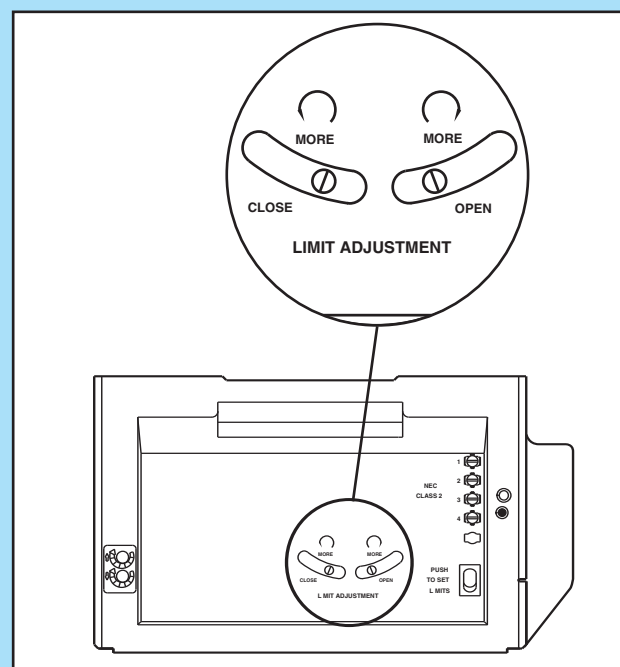

Fig. 8-1
1. Adjusting the "OPEN" limit switch (Fig. 8-1).
4. Adjust the "CLOSE" limit switch (Fig. 8-1).